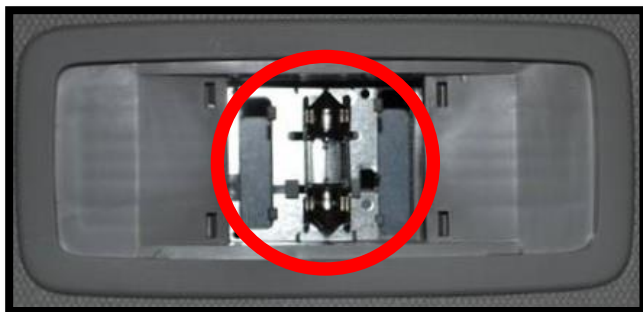

Figure 2b
b) Pull the bulb out of the socket (circled in **Figure 2b**). If you need to use something to remove the bulb make sure it is non-metallic or you may short out a fuse.